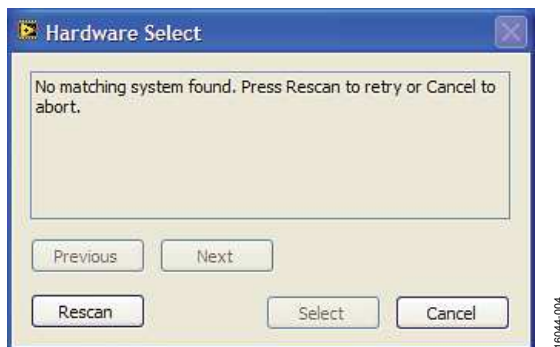

Figure 4. Connectivity Error Alert
2. If the evaluation system is not connected to the USB port when the software is launched, a connectivity error displays (see Figure 4). Connect the evaluation board to the USB port of the PC, wait a few seconds, and click **Rescan**. Follow the instructions that appear.